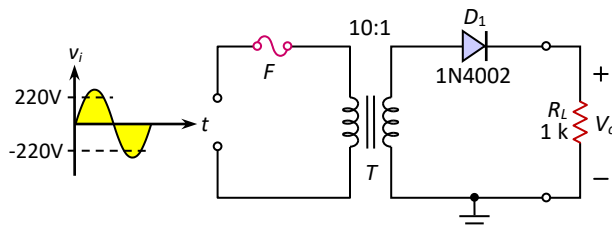

Fig.3-117: Half-wave rectifier for Exercise no. 32 and 33
32. Fig.3-117 shows a half-wave rectifier circuit with a step down transformer. The turn ratio of the transformer is 0.1, and the input AC voltage of the transformer is 220 V. The Si diode has a barrier voltage of 0.7 V. Determine: (i) Peak value, (ii) Average value and (iii) RMS value of the output voltage.